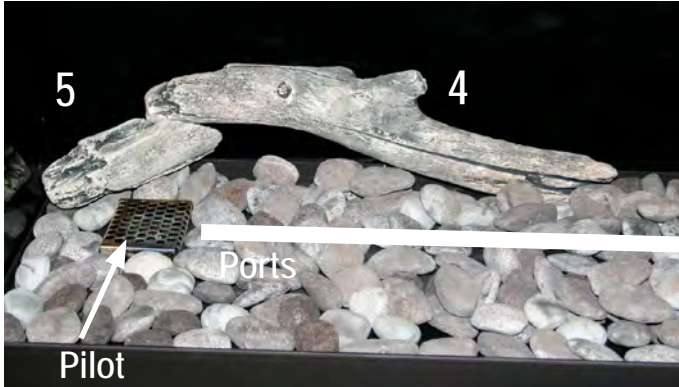

Figure 26f.
Step 7. Place log 5 from LGS59 in the back left corner of the burner, behind the pilot. Place Log 4 from LGS58 on top of log 5. Use stones to help stabilize log 4. See **figure 26f**.